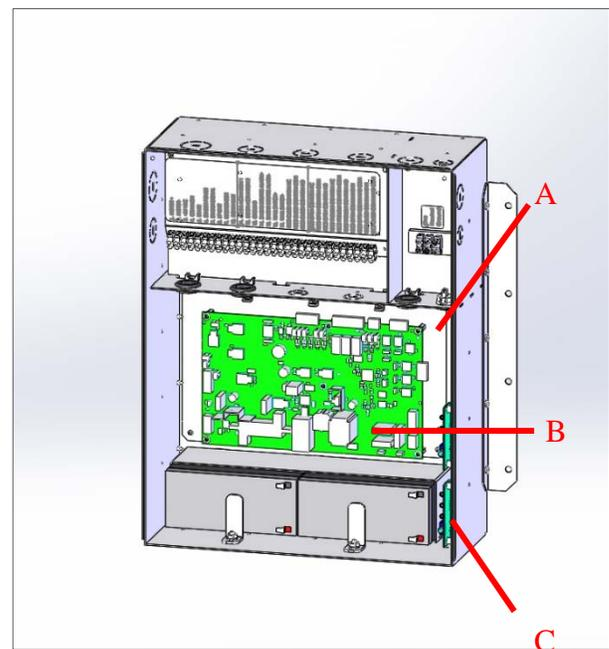

Figure 5 – (A) Power switch location. (B) DIP switch location. (C) Status LED and microswitch location.
Step 2 – Using the switch in the upper right corner of the Main Controller, power off the unit and disconnect the batteries. See Figure 5 for switch locations.
Step 3 – Locate the circuit board inside the Main Controller. Switch the system into Jog Mode by switching the #6 DIP switch into the DOWN position. See Figure 5 for more switch locations.
Step 1 – Using the switch in the upper right corner of the Main Controller, power off the unit and disconnect the batteries. See Figure 5 for switch locations.
Step 2 – Locate the circuit board inside the Main Controller. Switch the system into Jog Mode by switching the #6 DIP switch into the DOWN position. See Figure 5 for more switch locations.